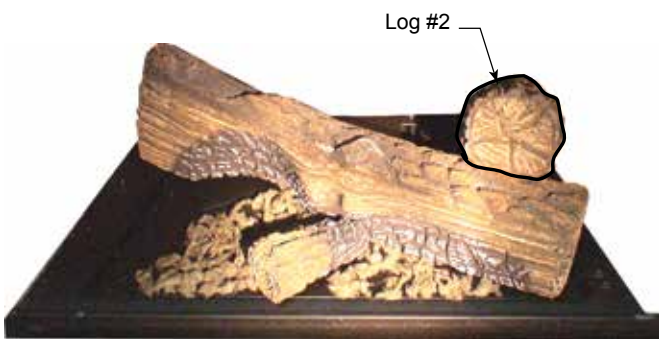

Figure 20 -
5. Position log #2 so that it is resting on log #1. *Figure 20*